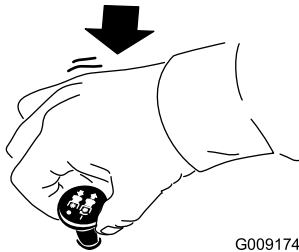

Figure 14
1. Disengage the blades by moving the blade-control switch to the OFF position (Figure 14).